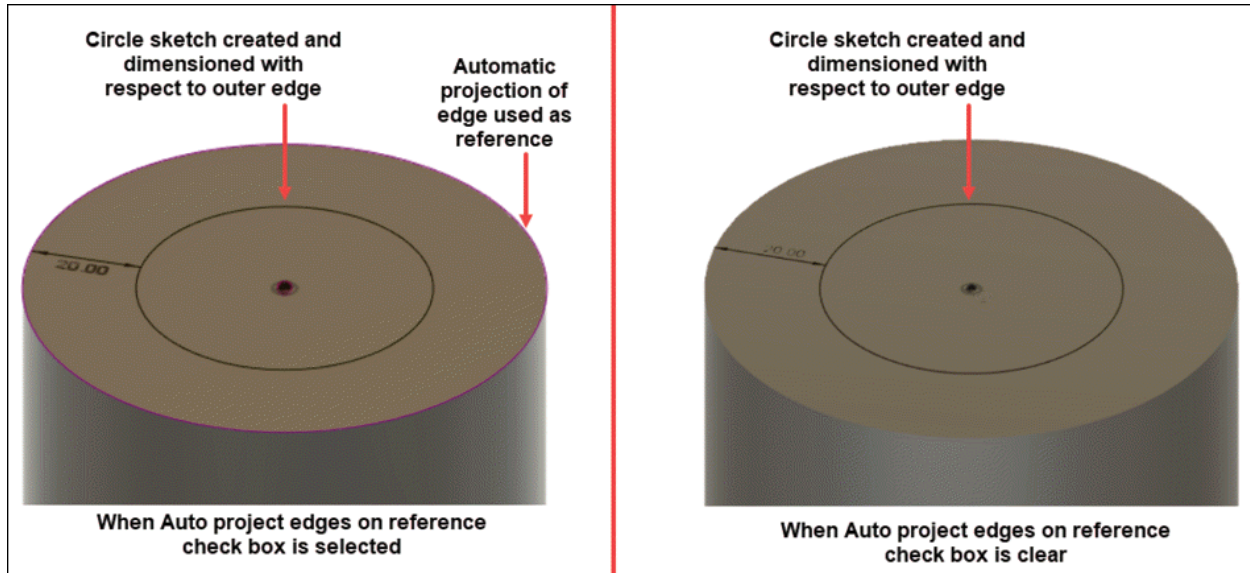

Figure-91. Use of Auto project edges on reference check box
- Select the **Auto project edges on reference** check box if you want to automatically project edges of model when they are used as reference for dimensioning or constraining of other sketch elements. Refer to Figure-91.